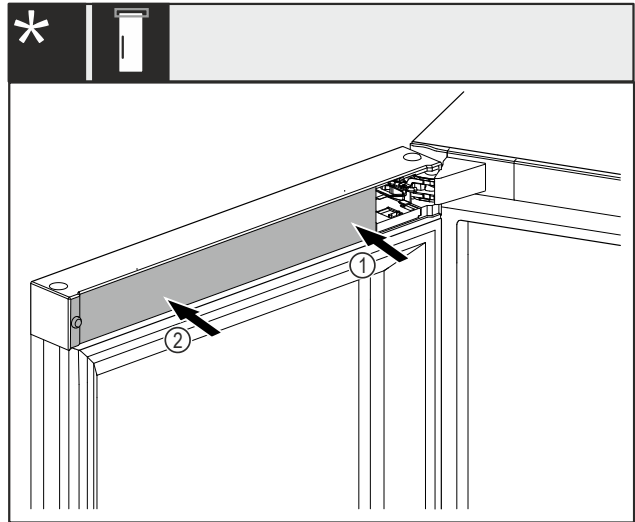

Fig. 50 \*
- ▶ Place the cover Fig. 50 (1) on the bearing bracket side first and snap into place.\*
- ▶ Fit the cover Fig. 50 (2) on the outside and snap into place.\*